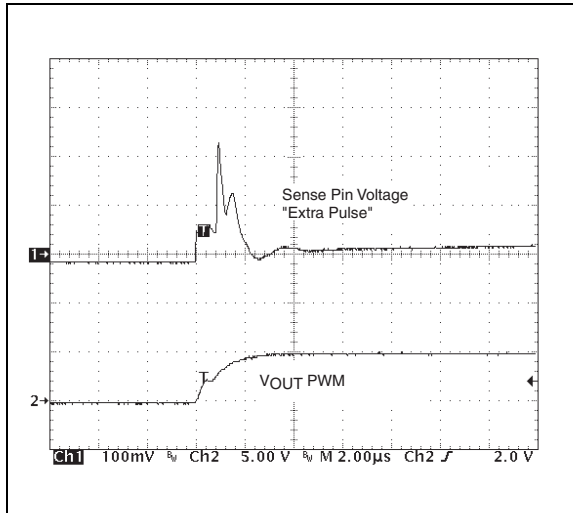

**FIGURE 7-9:** Four Current Pulses Per Revolution Fan.
**Example:** The full speed fan RPM rating is 8200 RPM. From this, the time for one fan revolution is calculated to be 7.3 msec, using the previously discussed equation. Using a current probe, the fan current can be monitored as the fan is operating at full speed. Figure 7-9 shows the fan current pulses for this example. The 7.44 msec window, marked by the cursors, is very near the 7.3 msec calculated above, and is within the tolerance of the fan ratings. Four current pulses occur within this 7.44 msec time frame. Given this information, F2PPR (bits 4-3<01>) and F1PPR (bits 2-1<01>) in the Configuration Register, should be set to '10' to indicate 4 current pulses per revolution.
This problem occurs mainly with fans that have a current waveshape like the one shown in Figure 7-9. For configurations where an NPN transistor is being used as the external drive device, the typical  $R_{sense}$  and  $C_{sense}$  scheme can continue to be used to sense the fan current pulses. In order to eliminate the extra current pulse, a slow down capacitor can be placed from the base of the transistor to ground. A 0.1  $\mu F$  capacitor is appropriate in most cases. This arrangement is shown in Figure 7-11. This capacitor will help to slow down the turn-on edge of the transistor and reduce the amplitude of the extra current pulse.